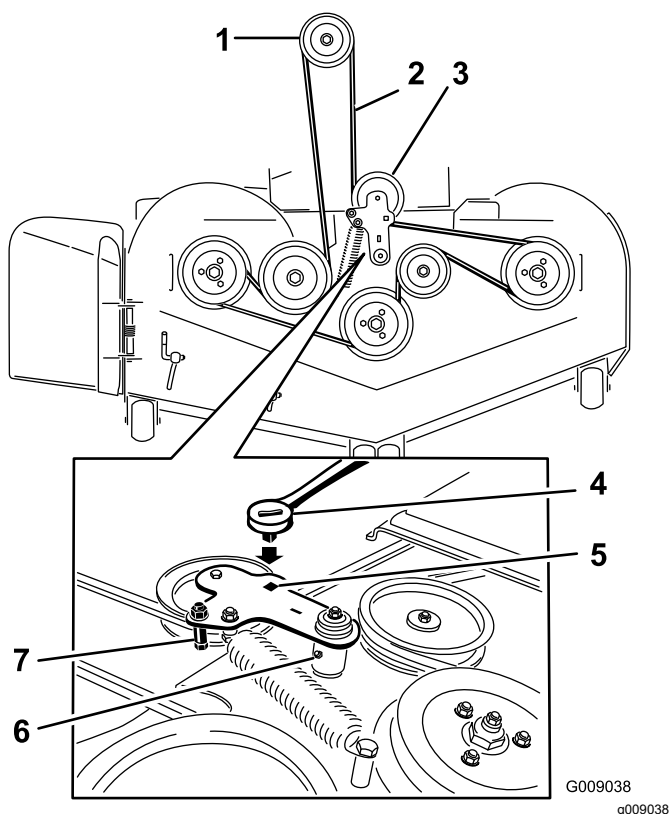

Figure 104
5. Remove the floor pan and insert a ratchet into the square hole in the deck idler (Figure 104).
6. Rotate the deck idler clockwise and remove the mower belt (Figure 104).